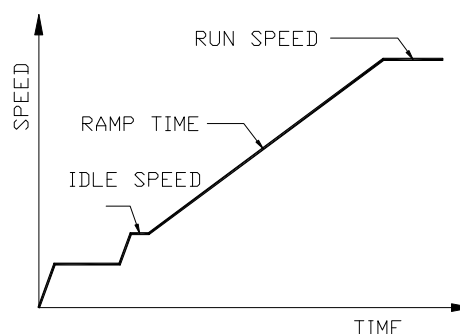

Figure 1
- Stop engine and adjust Ramp. Time to it center setting then restart engine. At this time, the engine speed will stay in Idle and slowly Ramp up to normal engine speed. Adjust to preferred Ramp speed. Refer to Figure 1.
- To ensure positive engine starts every time follow step (4) and turn the Idle Speed potentiometer an additional 3 to 5%.